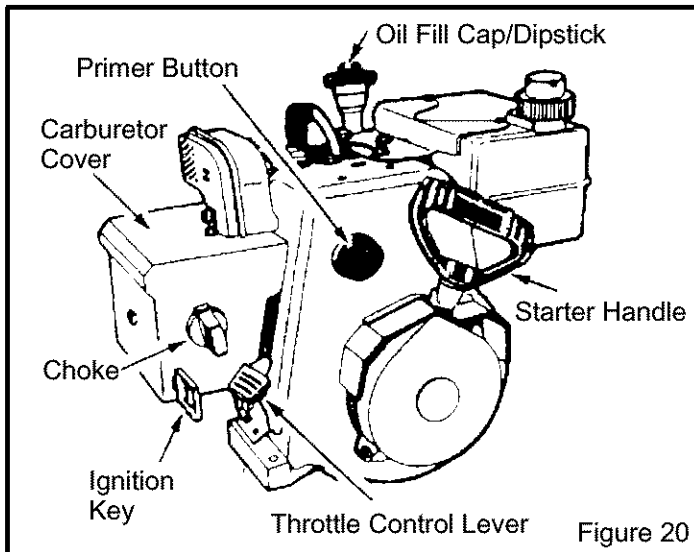

Figure 20
COLD ENGINE START (RECOIL STARTER) (SEE FIGURE 20)
3. Insert key into ignition slot. Make sure it snaps into place (Figure 20). Do not turn key.
6. Pull starter handle (Figure 20) rapidly, and allow to re-wind slowly while maintaining firm grip on handle.
5. Pull starter handle (Figure 20) rapidly, and allow to re-wind slowly while maintaining firm grip on handle.